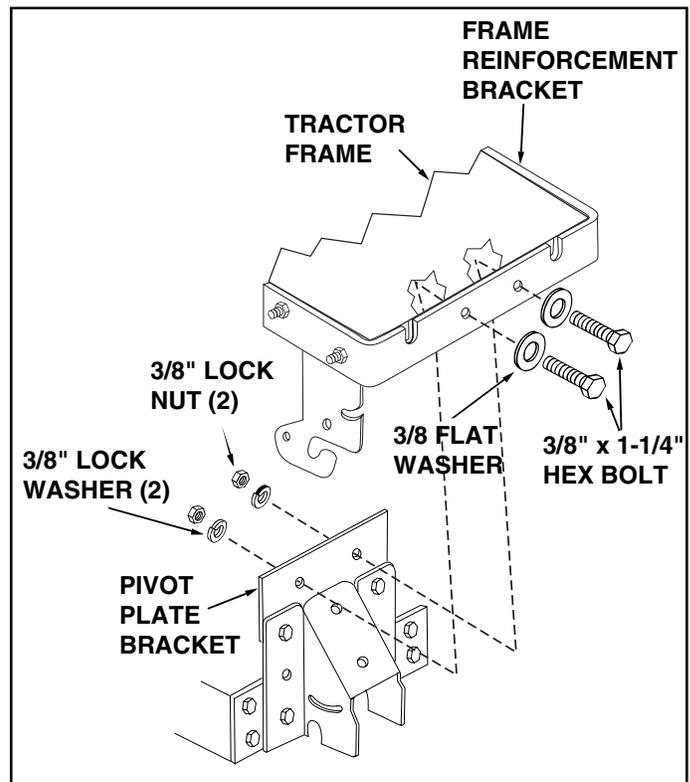

FIGURE 8
- Attach blade frame assembly to the inside of tractor frame by aligning holes in pivot plate bracket with holes in front end of tractor frame and the frame reinforcement bracket. Secure using two 3/8" x 1-1/4" hex bolts, 3/8" flat washers, 3/8" lock washers and 3/8" lock nuts. **Tighten these two bolts at this time.** See figure 8.